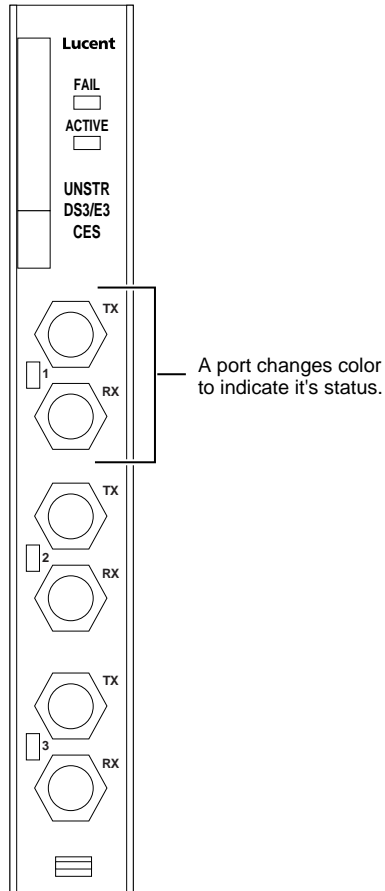

Figure 5-17. Port Status Data
- View the ports on the module in the Front Panel tab (see Figure 5-17)